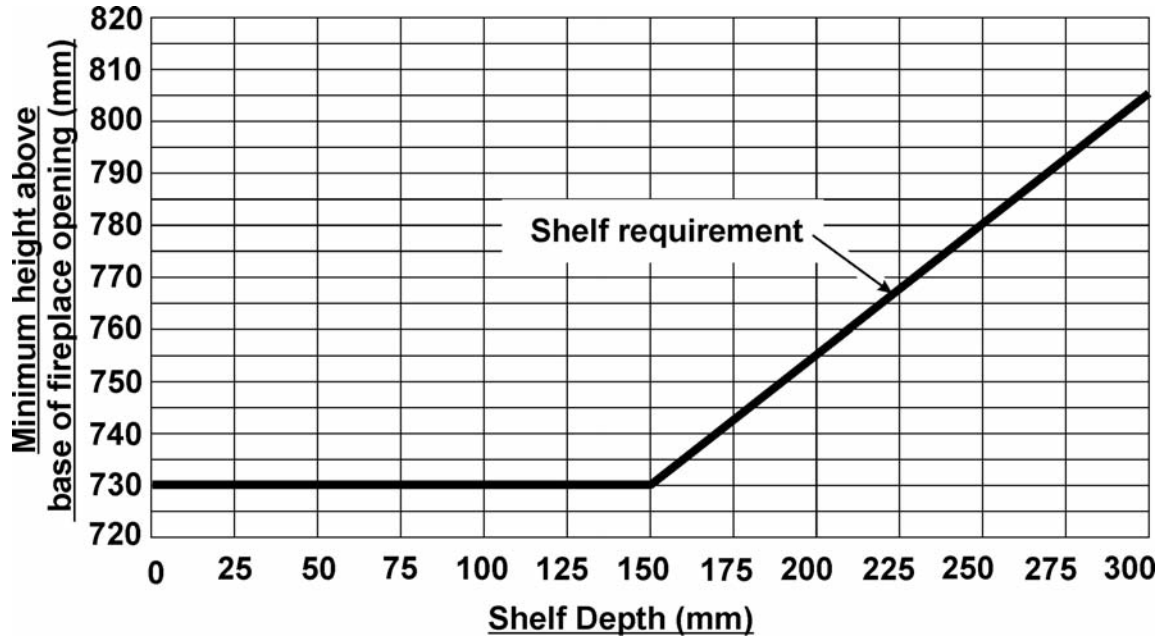

Figure 2. Combustible shelf clearances
- For a shelf deeper than 150mm: 730mm + 12.5mm for every 25mm depth over 150mm (See Figure 2).